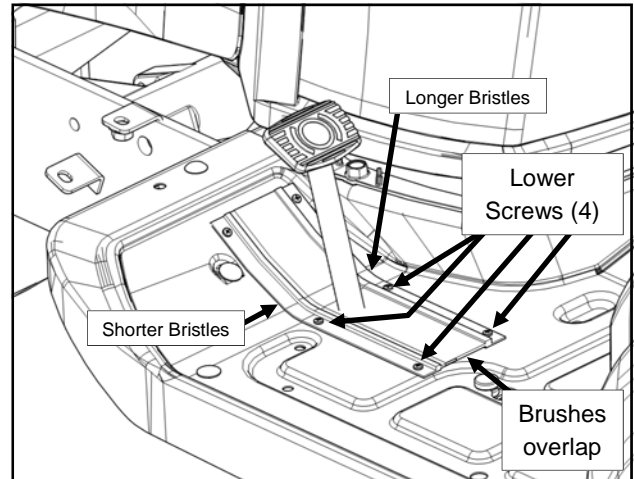

Figure 2.1 (Brake Pedal Brushes)
- 2.1 The two longest brushes, one with long bristles and one with short bristles, seal off the brake pedal. The longer bristles go to the right of the pedal, while the shorter bristles go to the left. The bristles will also overlap a little bit. Line the brushes up as shown in Figure 2.1 and mark, punch, and drill holes for the lower four screws using the holes in the brushes as guides. Secure the brushes flat side down, but do not overtighten and distort the plastic. Repeat the process with the remaining two screws and ensure the brushes follow the curve of the floor board.